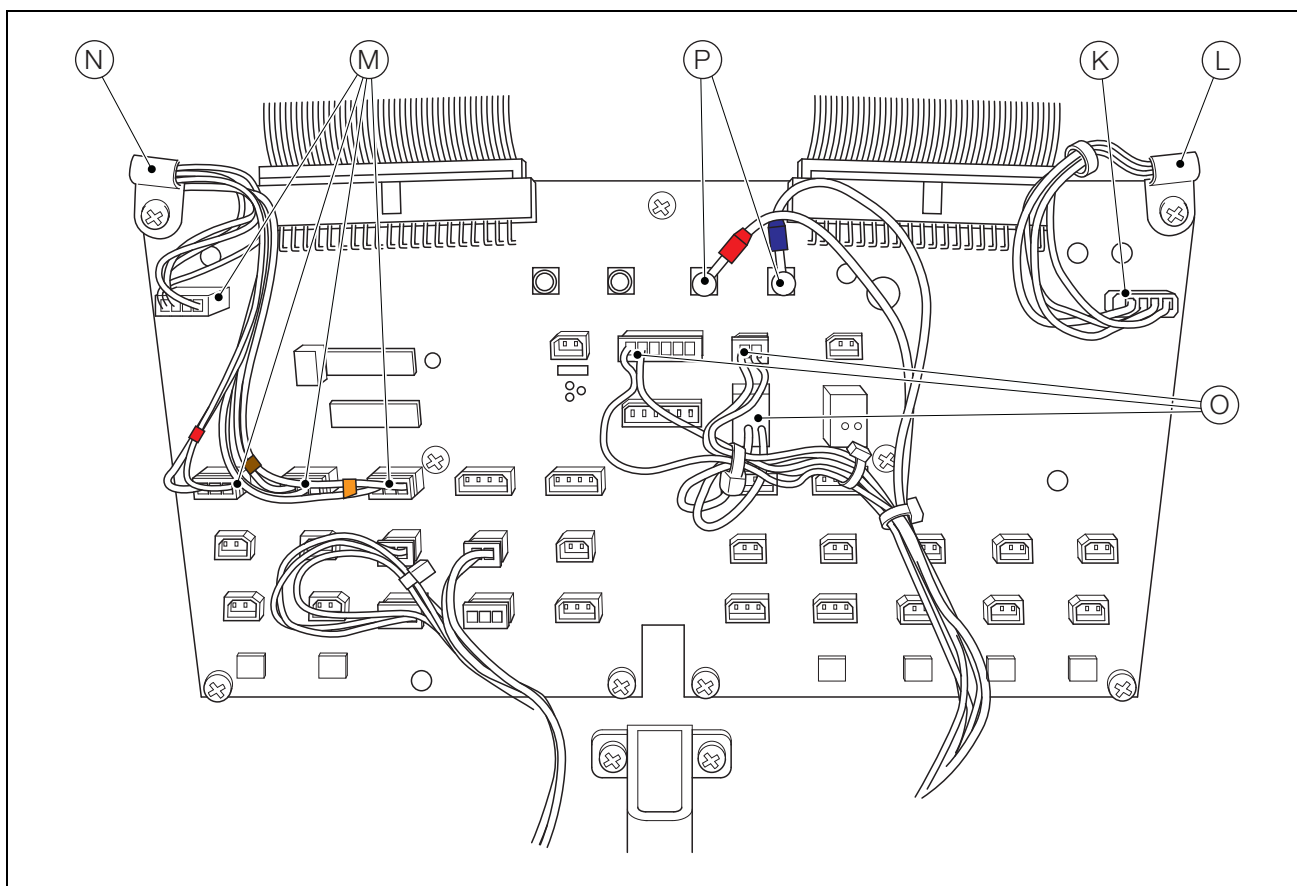

Fig. 4.5 Disconnecting the Analytical Section Electrical Connections
6. Referring to Fig. 4.5:
- a. Disconnect the 'Reagent Motor' connector (K) from the connection board.
- b. Remove the screw securing cable clip (L) and release the clip from the loom.
- c. Disconnect the 'Sample Motor', 'Wash Solution Valve', 'Zero Solution Valve' and 'Span Solution Valve' connectors (M) from the connection board.
- d. Remove the screw securing cable clip (N) and release the clip from the loom.
- e. Disconnect the 'Measuring Cuvette', 'Heater PT100' and 'Heater' connectors (O) from the connection board.
- f. Disconnect the 'MC Reference Diode' and 'MC Measure Diode' coaxial connectors (P) from the connection board.